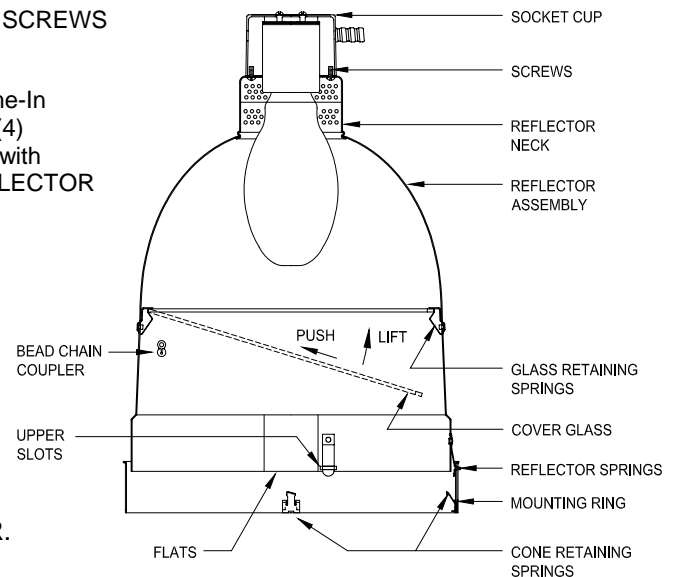

FIG. 1
- 5: Hook SAFETY BEAD CHAIN onto BEAD CHAIN COUPLER. Position CONE so that bead chain is about horizontal, then push CONE up into MOUNTING RING, then turn CONE clockwise slightly for tight fit onto ceiling. CONE RETAINING SPRINGS will hold cone in place. (Fig. 1 & 4)